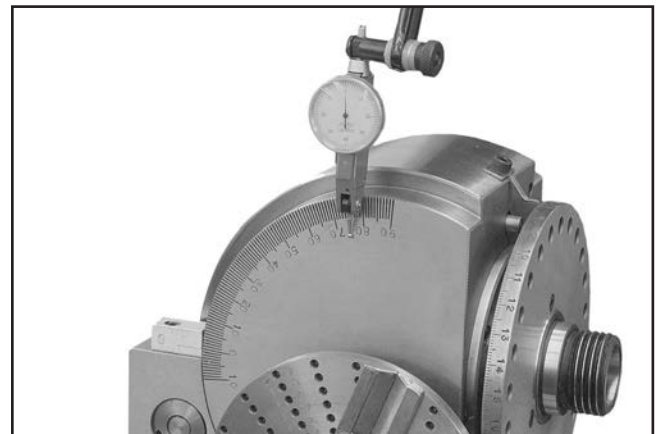

Figure 6. Indicating the front face of the tool.
3. Mount a test indicator into the mill spindle with the indicator tip touching the front face of the dividing head, as shown in **Figure 6**.